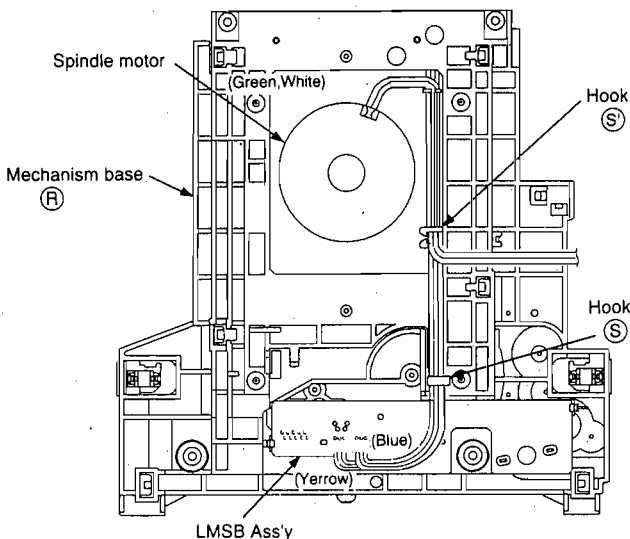

Fig. 1-6 Mechanism base the bottom side
6. Remove the lead wires from the hook **S** (Fig. 1-6) for the FG signal lead (yellow) wire and the carriage position detecting SW lead wire (blue) at the front of the mechanism base **R**.
7. Remove the lead wires from the hook **S** for the spindle motor lead wire (green, white), the FG signal lead wire (yellow), the carriage position detecting SW lead wire (blue) and the earth lead wire (black) at the center of the mechanism base **R** (Fig. 1-6).
- Hook the lead wire for the spindle motor (green, white), the lead wire for the FG signal (yellow), the lead wire for the carriage position detecting SW (blue) and the earth lead wire (black) to the hook ⑥ (Fig. 1-6) on the bottom center of the mechanism base.
- Hook the yellow and green wires to the hook ⑦ (Fig. 1-6) on the front bottom side of the mechanism base. And attach the lead wire to the each same color connector on the LMSB assembly.